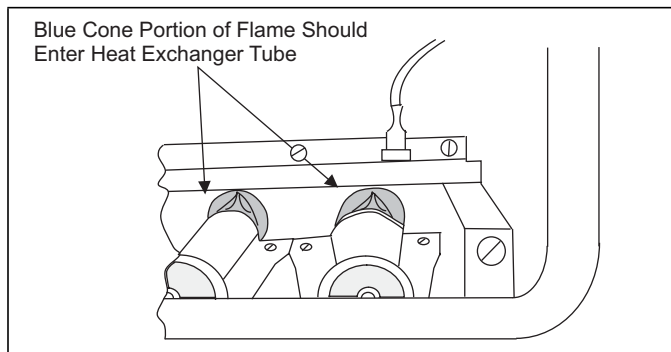

FIGURE 5: Burner Flame Drawing (Upflow Configuration Shown)
6. Examine the burner flames to make sure they are in good adjustment. Refer to the pictorial sketch shown in Figure 5 as a comparison to the actual flame.